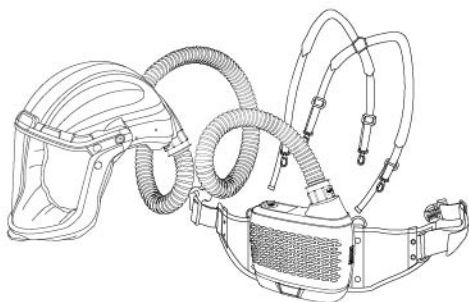
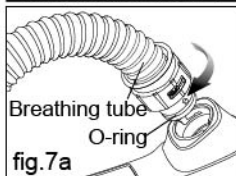

fig.6
fig.7a
- Always inspect the PAPR end of the breathing tube to confirm the rubber O-ring is in place, see fig.7a. Replace if missing or damaged.
Insert the two prongs on the breathing tube into the blower unit and helmet air duct (See fig.6), twist 1/4 to the anti- "open" direction (See fig.7a / 7c).